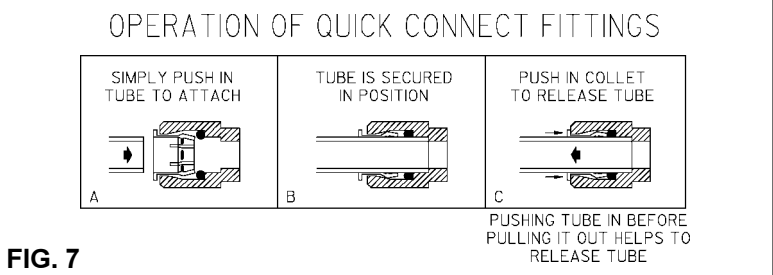

FIG. 7
2. **Actuation of Quick Connect Water Fittings:** Cooler is provided with lead-free connectors which utilize an o-ring water seal. To remove tubing from the fitting, relieve water pressure, push in on the gray collar while pulling on the tubing (See Fig. 7). To insert tubing, push tube straight into the fitting until it reaches a positive stop, approximately 3/4".